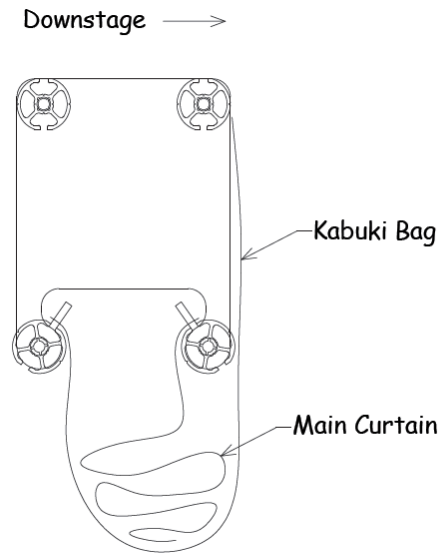

Figure 5
**Step 2:** West Coast (bunch) main curtain and bring the bottom edge of the Kabuki bag up and attach to the upstage **curtain rod** as you did with the main curtain (refer to Figure 5).